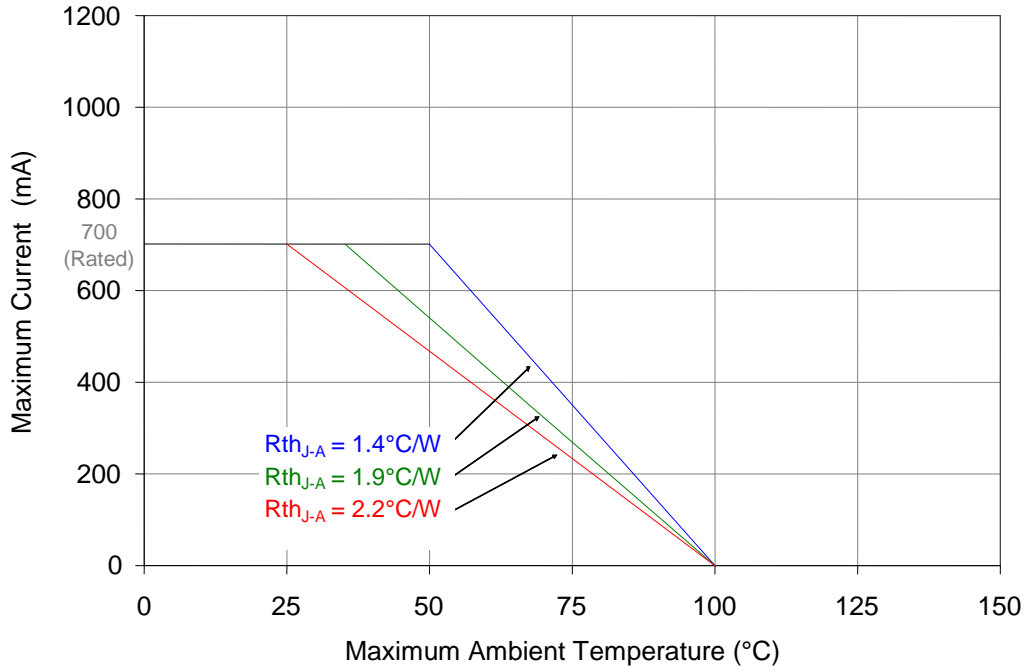

Figure 10: Maximum forward current vs. ambient temperature based on T_{J(MAX)} = 100°C.
- Maximum DC forward current (per die) is determined by the overall thermal resistance and ambient temperature. Follow the curves in Figure 10 for current derating.
Notes for Figure 10: